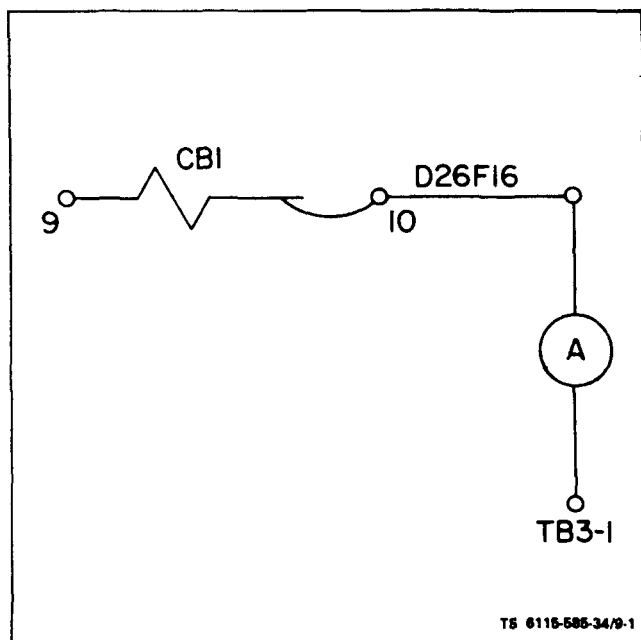

Figure 9-1. Adjusting R3 Resistor
a. Remove wire D26F16 from TB3-1 and connect **0** to 1 amp ac test ammeter as shown in figure 9-1.